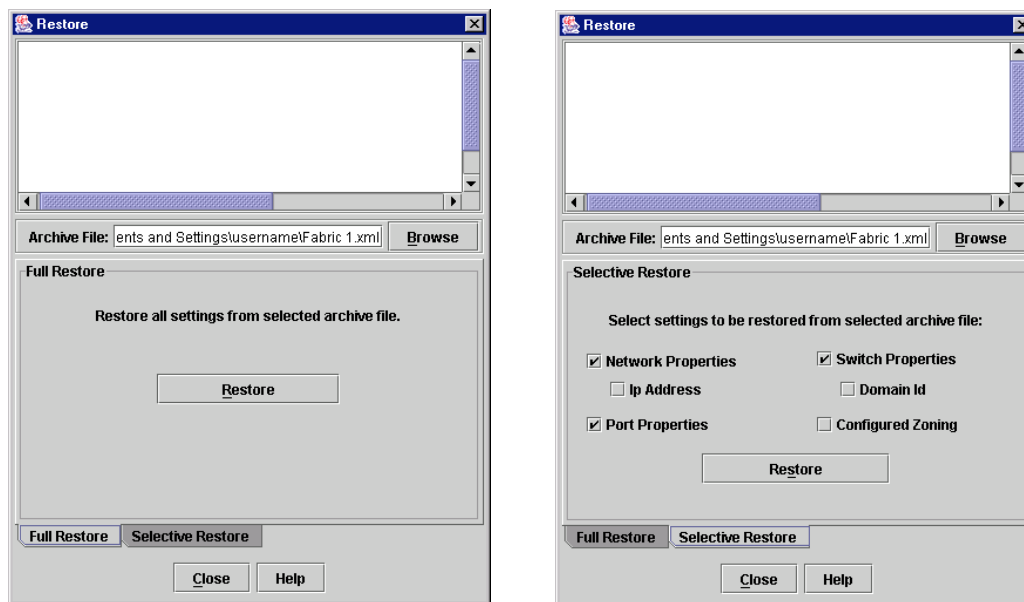

Figure 4-13. Restore Dialogs – Full and Selective
2. Open the Switch menu in the faceplate display and select **Restore** to display the Restore dialog shown in Figure 4-13. The Restore dialog offers a **Full Restore** and a **Selective Restore** tab.